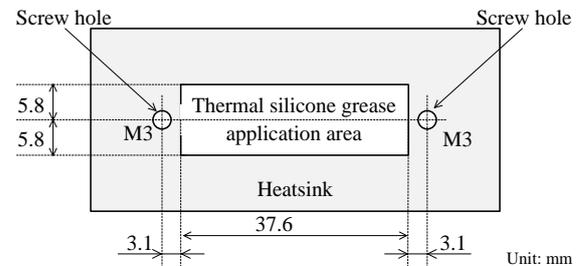

Figure 13-2. Recommended application area for thermal silicone grease
- When applying a silicon grease to a heatsink, it should be applied within the area indicated in Figure 13-2, below.